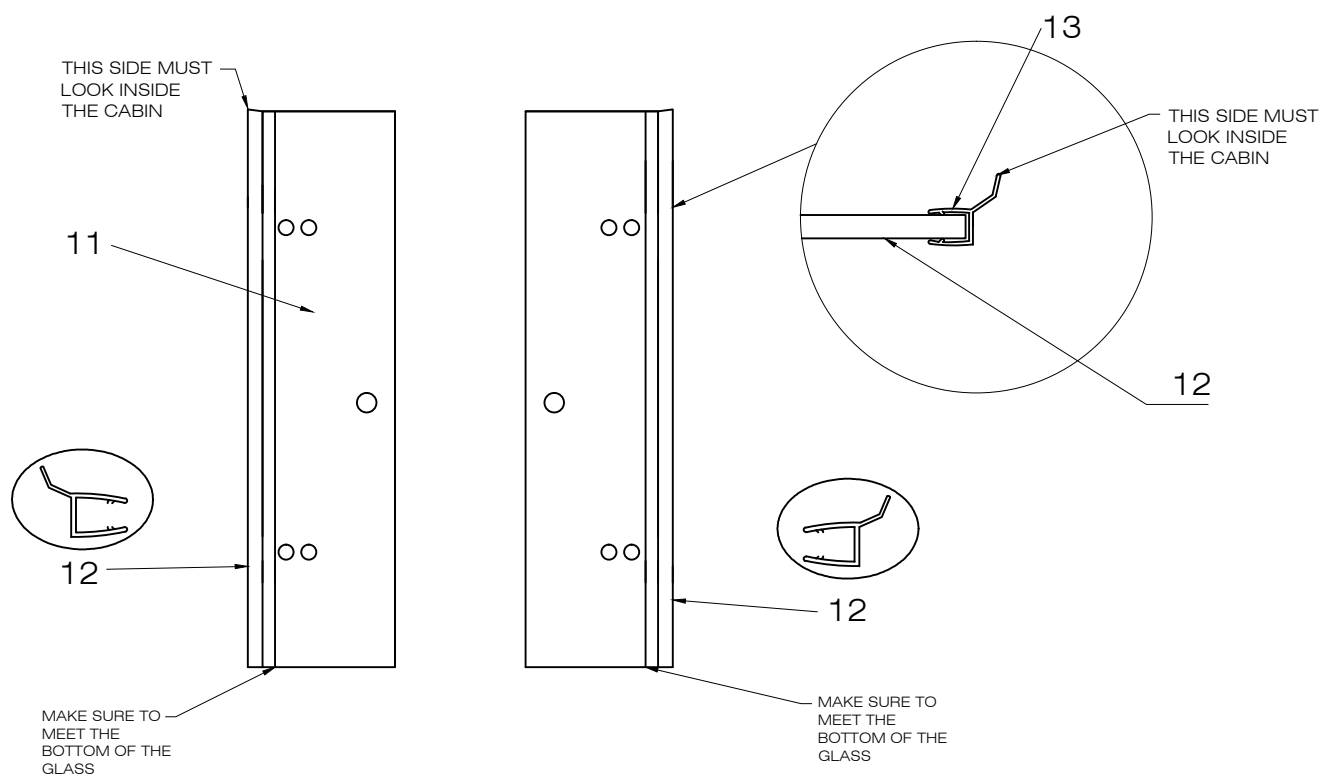

FIG.7
2. Place the seal strips according to the diagram. [SEE FIG.7]